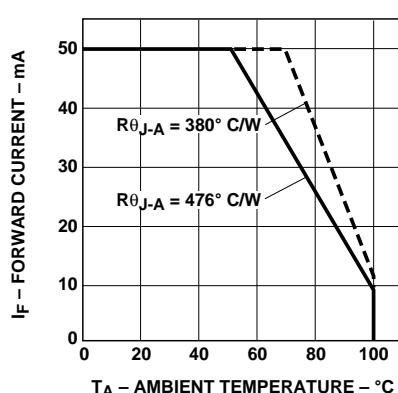

Figure 4. Maximum Forward Current vs. Ambient Temperature for HLMA-/HLMT-QL00/QH00/PL00/PH00. Derating Based on T_JMAX = 110 °C.
3. Derate linearly as shown in Figure 4.